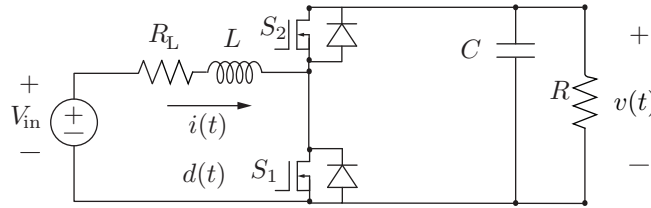

Figure 1: Boost converter circuit for Problem 1.
Problem 1: For the given boost converter circuit in Fig. 1, assume the following,
- You redesign inductance, L to reduce the current ripple of $i(t)$ shown in Figure 1.